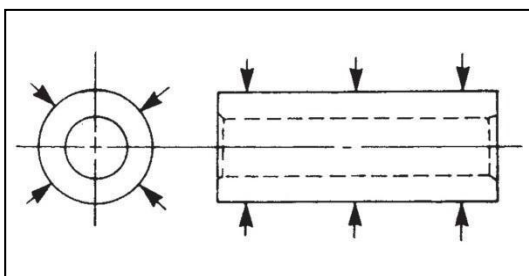

Figure 117
6. Measure the outside diameter of the piston pin in three places and at 90° (Figure 117). See the mechanical specifications chart. Record the measurements.